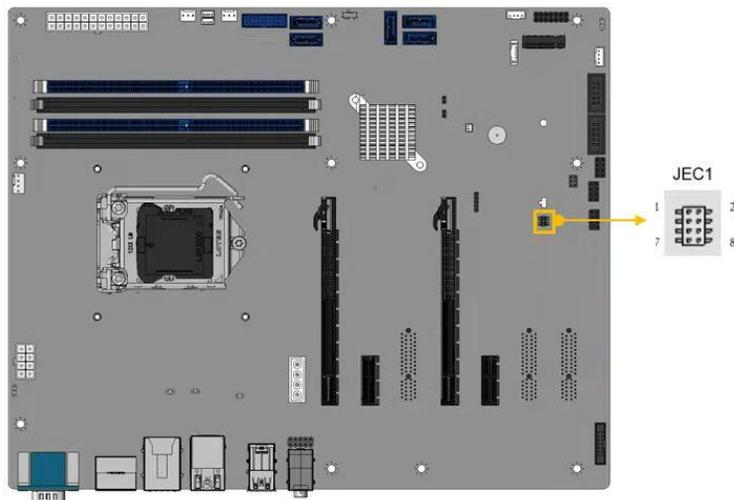

Figure 3-28: Flash EC ROM Connector Location
- CN Location:** See **Figure 3-28**